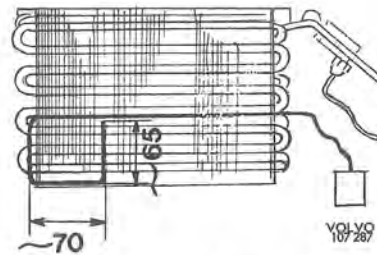

Fig. 8-71. Location of capillary tube in evaporator
6. Insert the new thermostat capillary in the evaporator and bend it according to the measurements in Fig. 8-71. It is important that no sharp bends are made on the capillary.